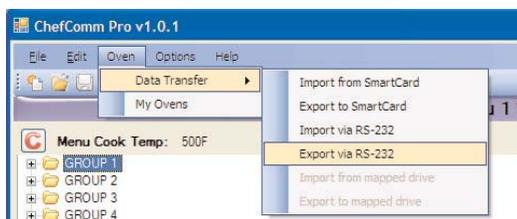

Figure 35: Export Menu via RS-232
4. In ChefComm, select **Oven > Data Transfer > Export via RS-232** (Figure 35).